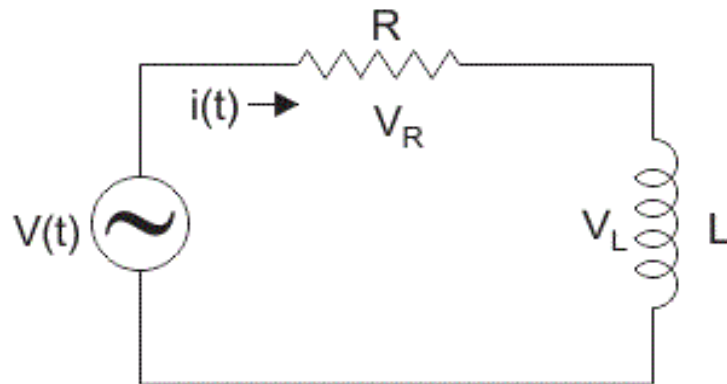

Figure 5.1
1. Connect the circuit as shown in the circuit diagram of fig. 5.1
3. Using figure 5.1 with E , R , and L Measure the current and voltage flowing throw resistor and inductor .